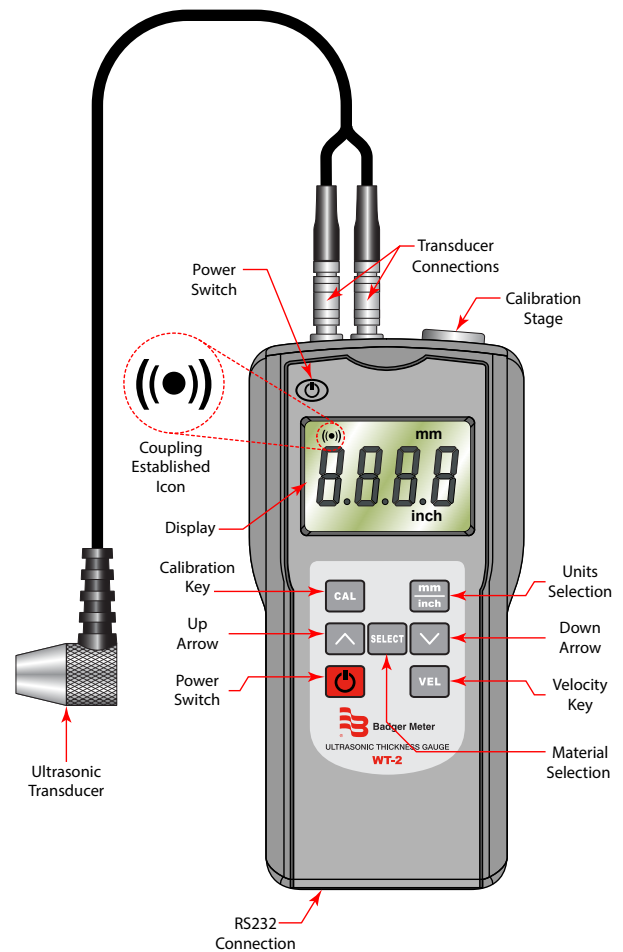

Figure 1: Gauge description and controls
6. Verify that coupling is established and the coupling icon is on (see Figure 1).
5. Verify that coupling is established and the coupling icon is on (see Figure 1). As long as the pipe's sound speed is set correctly, the reading on display is the wall thickness of the pipe.